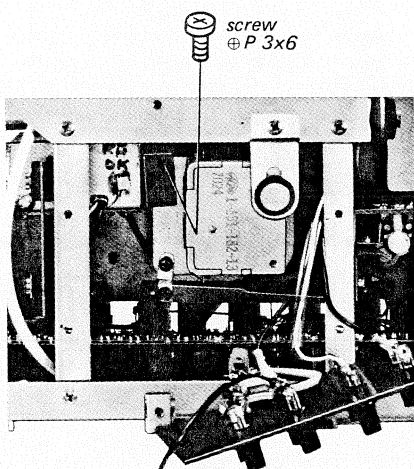

Fig. 2-6
4. Remove the screw shown in Fig. 2-6.